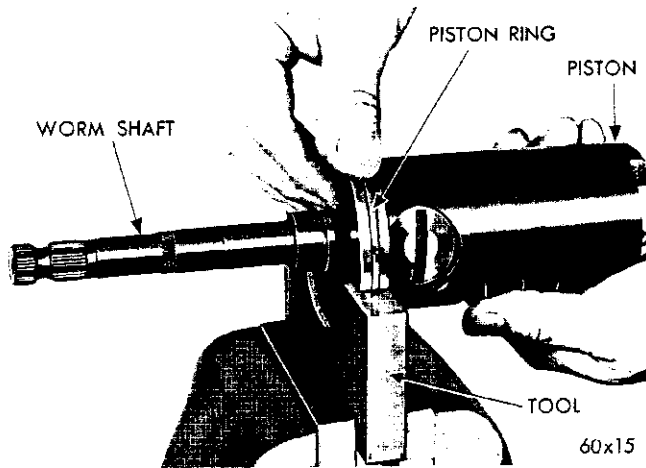

Fig. 47—Removing the Piston Ring
- a. Position Tool C-3676 in the vise (Fig. 47).
(1) Place the piston assembly in a vertical position (worm shaft up) in a vise equipped with soft jaws.
(2) Slide the cylinder head assembly (ferrule up) on the worm shaft, inspect the worm shaft seal ring making sure the gap is closed to avoid damaging the ring as the cylinder head moves against the piston flange.
(3) Lubricate with No. 2084329 Power Steering Fluid and install the following parts in order: